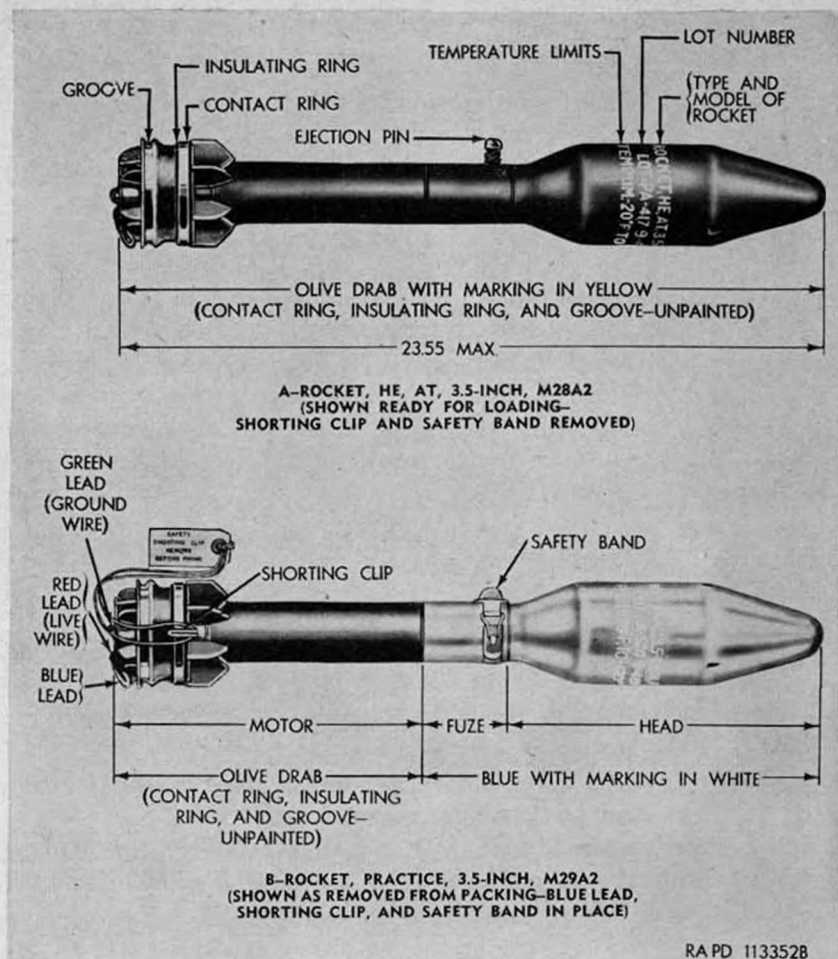

Figure 56. 3.5-Inch rockets M28A2 and M29A2.
a. *General.* Ammunition and ammunition components are completely identified by the painting and marking (including an ammunition lot number) on the ammunition items (fig. 56) and on all original packing containers.
e. Marking. Standard markings are stenciled on the rocket (fig. 56) in the appropriate color in accordance with the color scheme described in *d* above. These markings include the following:
- (1) *On the rocket head (stenciled unless otherwise indicated).*
- (2) *On the fuze (stamped in the metal).*
- (3) *On the motor (stenciled).*
- (1) *Description.* The rocket motor assembly, shown in figure 56, consists of the propellant and igniter housed in a heat-treated, alloy-steel, high strength tube to which the nozzle and fin assembly is securely attached. The front end of the tube is assembled to the base of the fuze; the rear end is constricted to form a nozzle. The cylindrical motor cavity is divided into four sections by spacer plates, which support the grains of propellant powder. The rear ends of the spacer plates rest against the trap. The fin assembly consists of an aluminum-alloy expansion cone, three pairs of aluminum-alloy fins (six fins), and a contact ring assembly. The contact ring assembly, which encircles the fin, consists of three concentric rings: an aluminum-alloy support ring, a laminated plastic insulating ring, and a copper contact ring. The support ring, which is innermost, is 1.78 inches wide and has a 360-degree groove near the rear end for engagement with the detent of the launcher to complete the electrical circuit. The contact ring is mounted on the forward end of the support ring but insulated from it by the insulating ring. The same motor assembly is used with the HE, AT, smoke (WP), and practice rocket. There are differences in the motors assembled to rockets of different modifications. The principal differences are in the trap, fin, and contact ring assembly. The trap in rockets M28 and M29 is a cast steel grid, whereas in the later modifications, it is a steel disk with drilled holes. Each of the blades of the fin (M28 and M29 models) are notched to receive the contactor latch blade of the launcher to complete the electrical circuit.
- (2) *Propellant.* The propelling charge consists of 12 grains of M7 propellant. Each grain is 5 inches long and approximately $\frac{3}{8}$ inch in diameter and weighs 0.03 pound. Three grains are placed in each of the four sections (a total of 12 grains of propellant weighing 0.36 lb) formed by the spacer plates. Each lot of propellant is adjusted at the time of manufacture to give standard velocity. Since the rate of burning increases with the initial temperature, it is important not to fire rockets at temperatures beyond the limits marked on each rocket. Firing at temperatures below the minimum (-20° F.) will give erratic ranges and excessive back blast of powder particles; firing at temperatures above the maximum ($+120^{\circ}$ F.) will cause dangerous pressures to build up
- (3) *Igniter and leads.* The IGNITER, M20 (T18), which consists of a short, cylindrical, plastic case containing a 3-gram black powder charge and SQUIB, electric, M1, is assembled in the forward end of the motor on top of the propellant spacer plates. The leads of the electric squib, running parallel to the grains of propellant, pass from the igniter through the nozzle closure into the expansion cone. The green lead (ground wire) is connected to the support ring of the contact ring assembly. The red lead (live wire) is connected to the contact ring by a tubular rivet which passes through but is insulated from the support ring. These connections are positioned 180 degrees apart. The blue lead ("pigtail") is actually an extension of the red lead (live wire) (fig. 56) and, as such, has one end connected to the same terminal as the red lead. The free end of the blue lead is connected to one of the contact springs on the launcher contact spring clamp at the time of loading. The blue lead is coiled and placed in the expansion cone during shipment and is held in this position by a piece of adhesive tape. The free end of the pigtail is stripped and then covered with a piece of plastic tubing which insulates the stripped end during handling and shipping. This insulating tubing is removed prior to connecting the blue lead to the contact spring.
- (1) *Description.* This base detonating fuze (figs. 56 and 57) is of the simple inertia type, which functions with non-delay action upon impact. The fuze body and safety band are olive drab; the fuze nomenclature, the loader's lot number, and the month and year of loading are stamped into the metal. An ejection pin, which passes through the fuze body and prevents movement of the internal parts, is provided to preclude accidental functioning during shipping, handling, and firing. An additional safety feature is provided by the safety band, which prevents the ejection pin from moving during shipping and handling. The safety band is not removed from the fuze until the rocket is to be loaded into the launcher. The fuze mechanism consists of a plunger, an actuating sleeve, a firing pin, a setback sleeve, a creep spring, a stop pin, and a lock pin. The explosive train includes a detonator and booster.
- (2) *Functioning.* When the safety band is removed, the ejection pin moves outward approximately three-eighths of an inch but still prevents all parts of the fuze mechanism from moving. When the rocket is in the firing chamber, the ejection pin is partially depressed by the chamber, thereby, freeing the setback sleeve so that it can move on setback. It should be noted that, in this condition the fuze is still safe, since the ejection pin prevents movement of the actuating sleeve and firing pin. If it becomes necessary to remove the rocket from the launcher, the ejection pin will move outward and re-engage the setback sleeve, thus returning the fuze to its original safe condition. When the rocket is fired, the force of setback causes the setback sleeve to move rearward against the resistance of the creep spring, partially compressing the spring. The setback sleeve is held in its rearward position by the lock pin. When the rocket leaves the muzzle of the launcher, the ejection pin is thrown clear of the fuze and the fuze is fully armed. During flight, the firing pin lever and firing pin spring prevent the firing pin from striking the detonator and the creep spring retards forward movement of the plunger and actuating sleeve. The action of the creep spring, which is partially loaded, is strong enough to retard the plunger and actuating sleeve and to prevent the fuze from firing should the rocket strike a light object such as light brush or undergrowth. Upon impact
- (1) Remove the shorting clips (fig. 56) from the contact ring assemblies.
- (2) *Protect the fuze cavity against the entrance of moisture.* The safety band (fig. 56), which is around the fuze as issued, depresses the ejection pin and seals the fuze against the entrance of moisture. When the band is removed preparatory to firing, the ejection pin moves to the locked position and moisture, if present, can then enter the fuze cavity. Under these conditions, if considerable time elapses between removal of safety band and firing, moisture may have entered the fuze cavity and frozen. This might prevent functioning of the fuze at the target, due to the formation of ice or frost within the fuze. Hence, it is important that the safety band be removed only *just before firing* and that the rocket be kept dry.
- (3) *Prevent accumulation of ice or frost on rocket in order to:*
- (4) *Use face protection to prevent injury from after-burning of the rocket when firing at low temperatures.* The rockets may be expected to produce some after-burning (irregular burning after the main burning and thrust have ceased) at high temperatures and considerably more at low temperatures. Hence, a face protector or at least goggles for eye protection should be worn by personnel firing these rockets, *especially* at low temperatures.